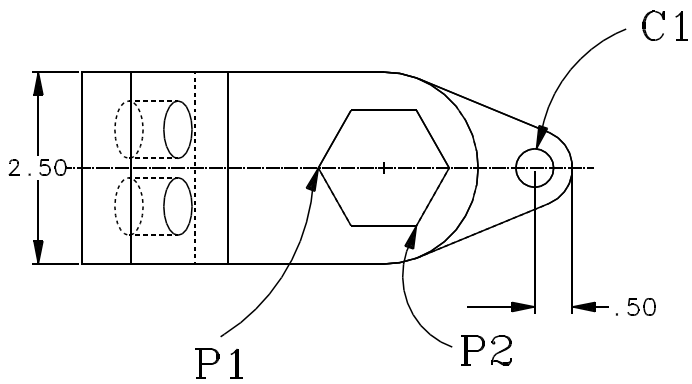

Figure 29
- 112. Click on points P1 and P2 for the 1.50 polygon dimension. (See Figure 29.)